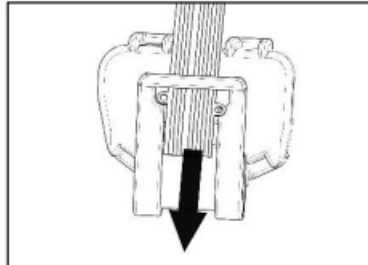

Fig. 5
5. Insert the flex of the new keypad in the plastic clip (Fig. 5).